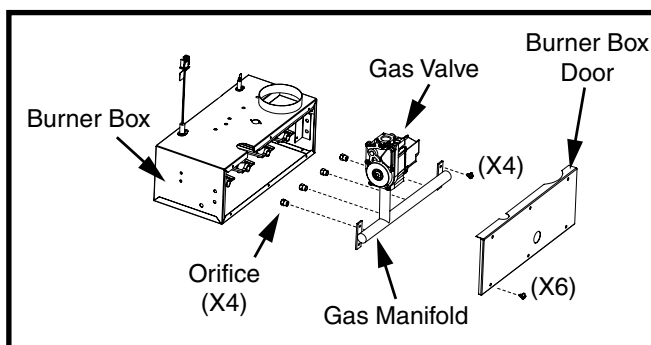

Figure 20. Orifice Removal
8. Carefully remove four screws securing the gas manifold assembly to the burner assembly. See Figure 20.